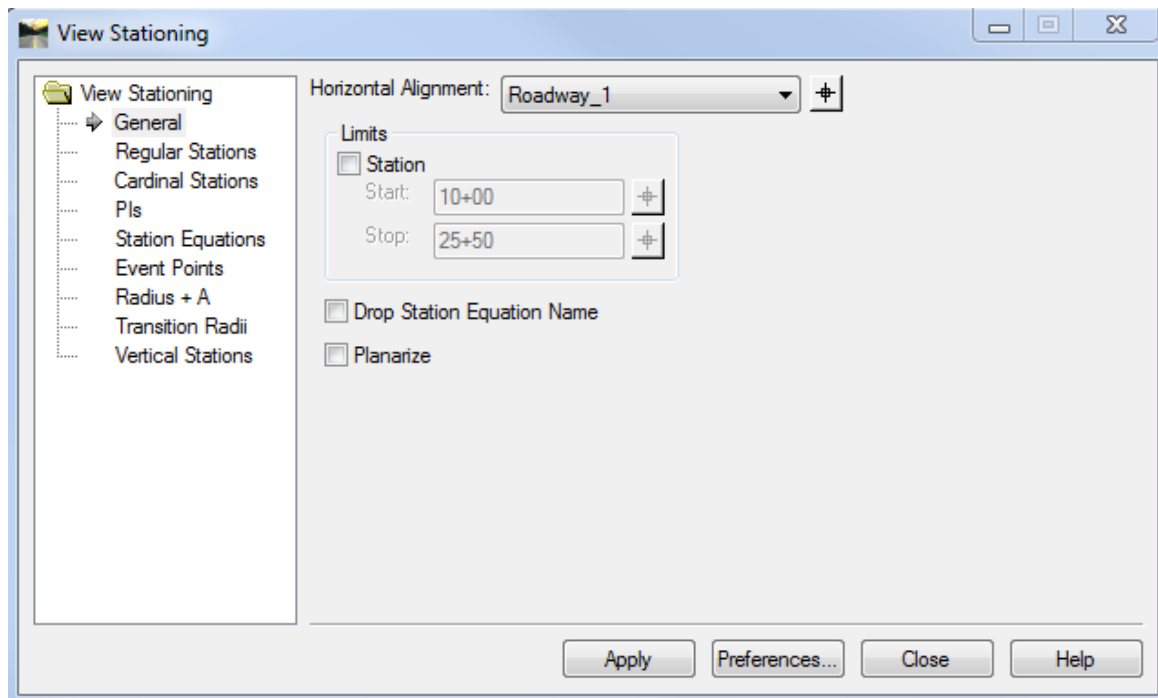

Figure 4-7 InRoads View Stationing Dialog Box
- B. Click on **General**, for Horizontal Alignment: select **Roadway_1** from the pull down tab. The correct Symbology boxes should already be checked off. See Figure 4-7: View Stationing Dialog Box.